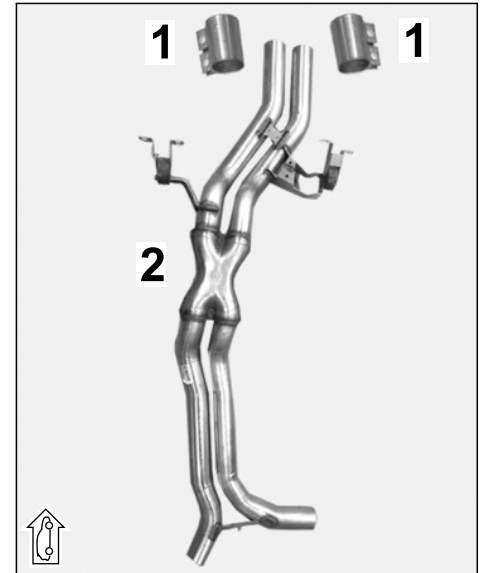

Figure 47
6.2 Install new exhaust pipe (⇒ *Figure 47*).